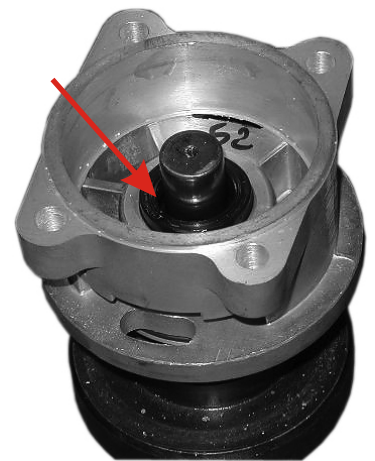

Fig. 111.
- Having packed the seal with an appropriate grease (ZIATIM 221 type) press it the seal in using the mandrel (Fig. 111)